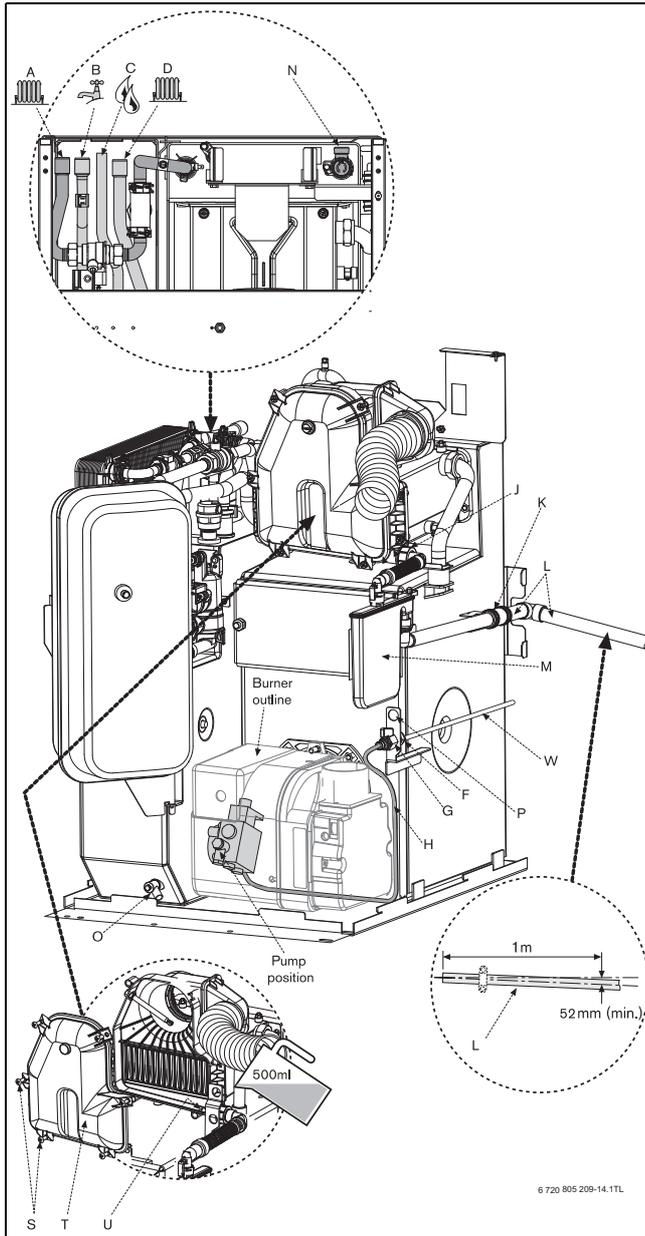

Fig. 38 Pipe connections
2. Connect the flexible oil pipe return hose [3] (not supplied) to the oil pump and return pipe fixing and tighten to secure (for routing see figure 38).
- ▶ Check that the burner is seated correctly on its mounting flange and that the oil hose/s are routed correctly as shown in Fig. 38 and not trapped in front of or underneath the burner.